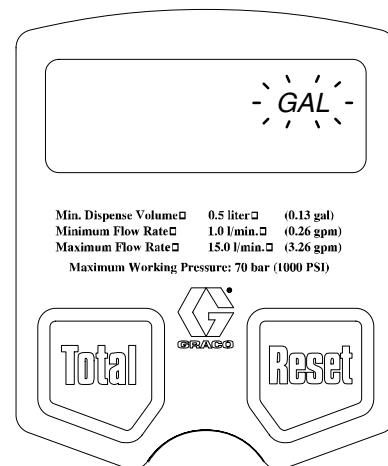

Fig. 6
3. With **QTS, GAL, LITERS**, or **PTS** blinking, as shown in Fig. 6, do **ONE** of the following two options: